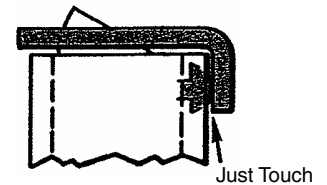

Figure 18
2. Install bottom strike. (Figure 18)